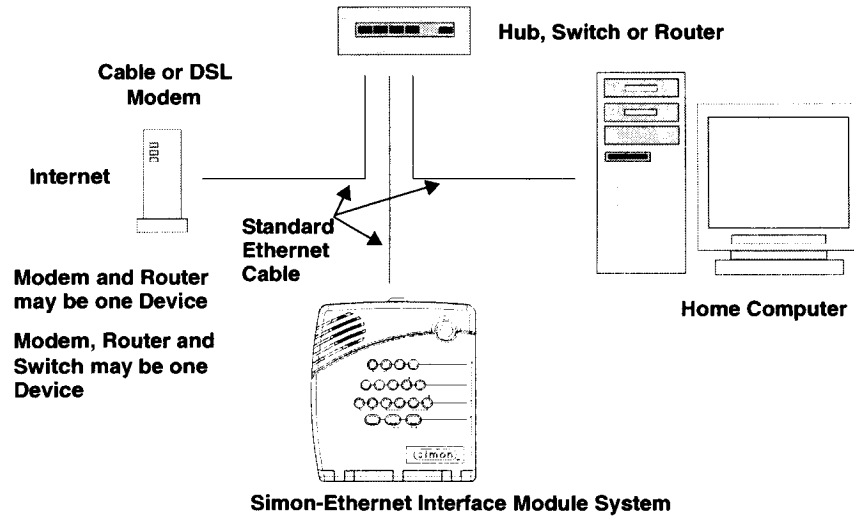

Figure 3. Residential Simon-Ethernet Interface Configuration
4. Connect the other end of the Ethernet cable to an available Ethernet port on your cable or DSL modem, hub, switch or router (see Figure 3).